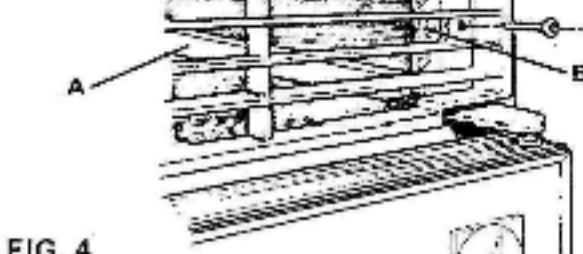

FIG. 4
A ventilator for fitting above the door as shown in fig. 4 is supplied with the refrigerator. The connection pipe, gas cock, and connectors are not supplied by Electrolux as the sizes of these may vary to suit particular installations. The appropriate parts should, however, be readily available from the refrigerator supplier or an Agent dealing in gas fittings (see note in item 11).
Alternatively, wooden batters may be screwed to the sides of the recess, from front to back, bearing down on the top of the cabinet to hold it firmly, as shown at A, fig. 4. Whichever method is used, it must be possible to remove the refrigerator easily for subsequent servicing purposes. The brackets or batters must be in a position where they will not restrict the air circulation over the cooling unit; they must not be positioned across the cabinet over the fins of the condenser of the cooling unit at the rear, otherwise air-flow will be impaired and performance affected.
To fit the upper ventilator, screw a block of wood approx. 25mm (1") square x 60mm (2 1/2") long, to each side of the recess, 16mm (5/8") back from the front edge, as shown at B, fig. 4. Secure the ventilator to the blocks with a screw through the hole provided at each end.